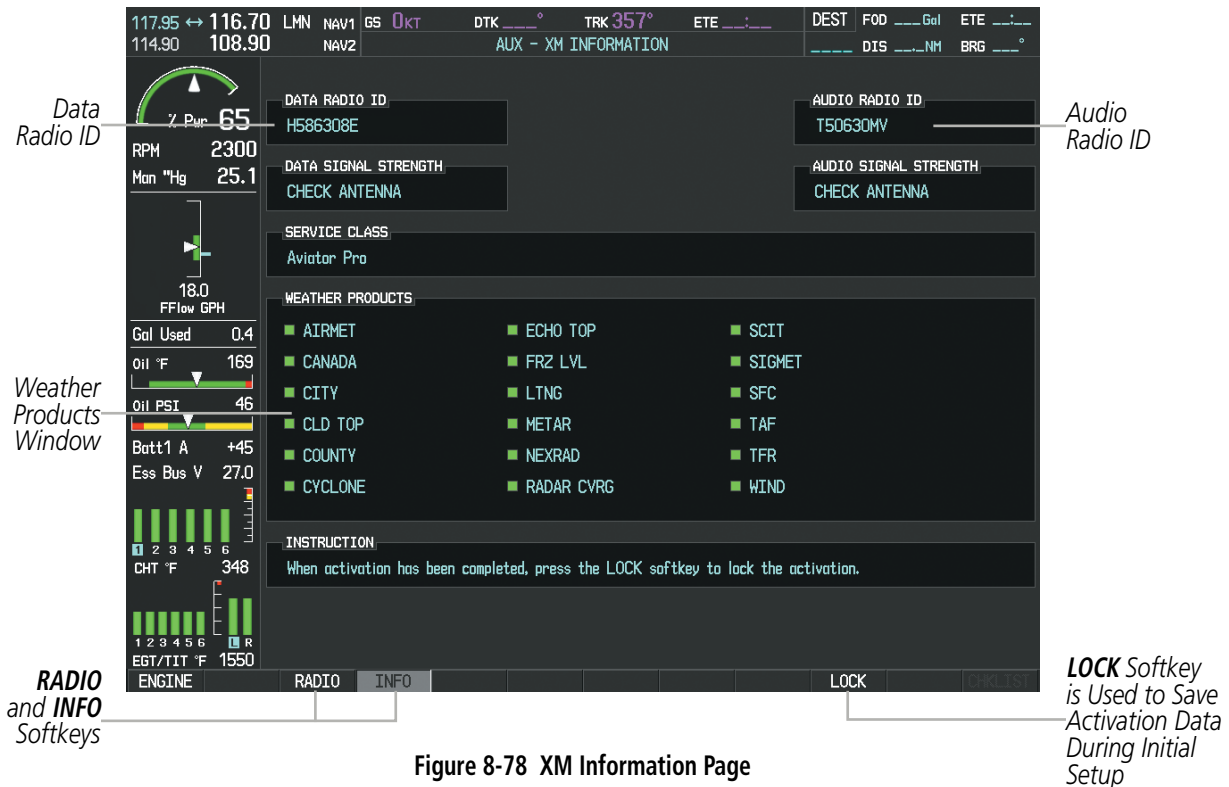

Figure 8-78 XM Information Page
- On the XM Information Page on the MFD (Figure 8-78)